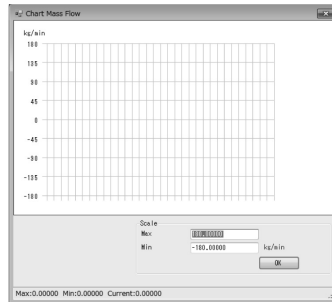

Fig.20
- ③ Click  button on the tool bar or "Chart and Recording" - "Chart" - "Mass Flow" from menu. A window (Fig. 20) appears, and a Mass Flow chart will be displayed. To change the scale of the vertical axis, enter the desired values on "Max" and "Min" under "Scale", then click "OK".